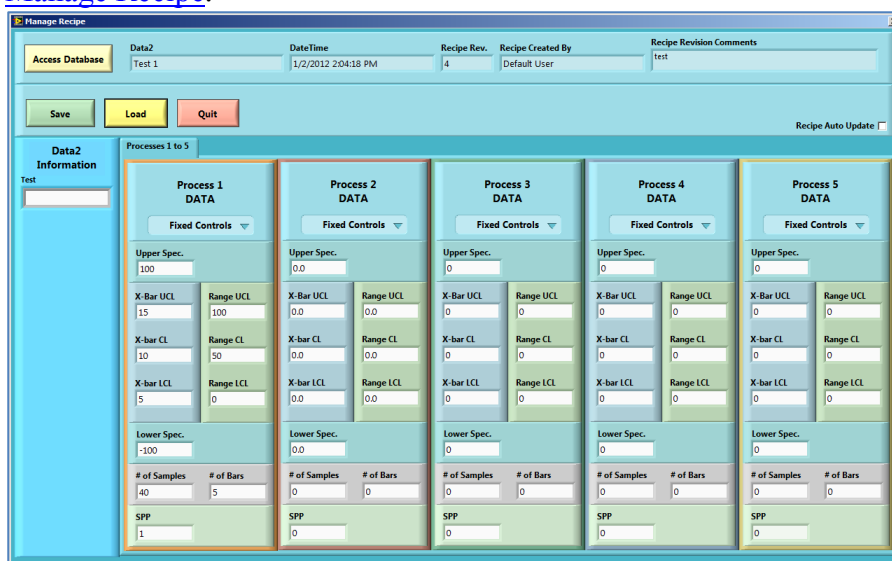

Figure 4.1-1: The Manage Recipe Window
2. Click the **Access Recipe** button on the **Configuration** tab of DQCsys Operator. The **Manage Recipe** window (Figure 4.1-1) will appear. For details on this window, see 6 Manage Recipe.